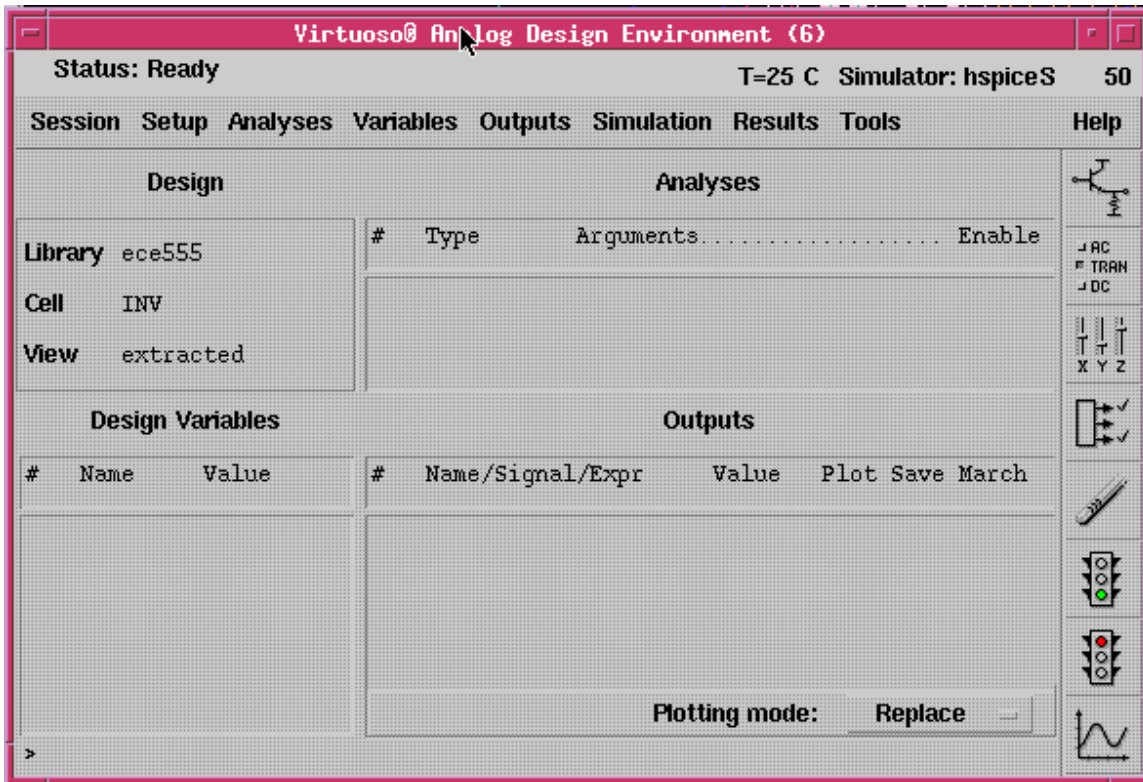

Fig. 26. Setting for post simulation
- Open up your extracted schematic and select **Tools -> Analog Environment** to get to the simulation environment as shown in Fig. 26.